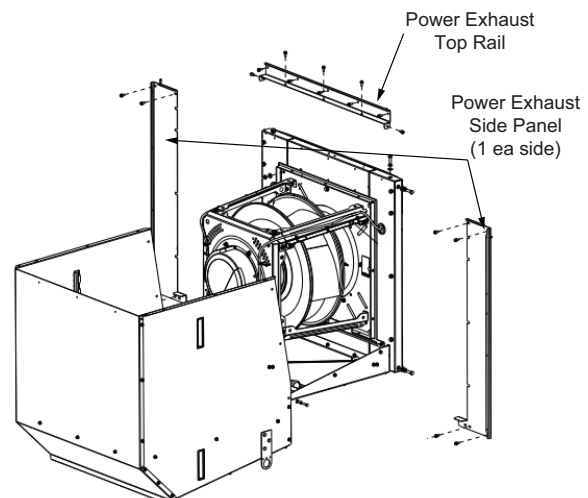

Fig. 36 — Power Exhaust Top Rail and Side Panel Locations
13. Re-install the panel above the power exhaust section. See Fig. 36.
14. Re-install the panels surrounding the power exhaust. See Fig. 36.